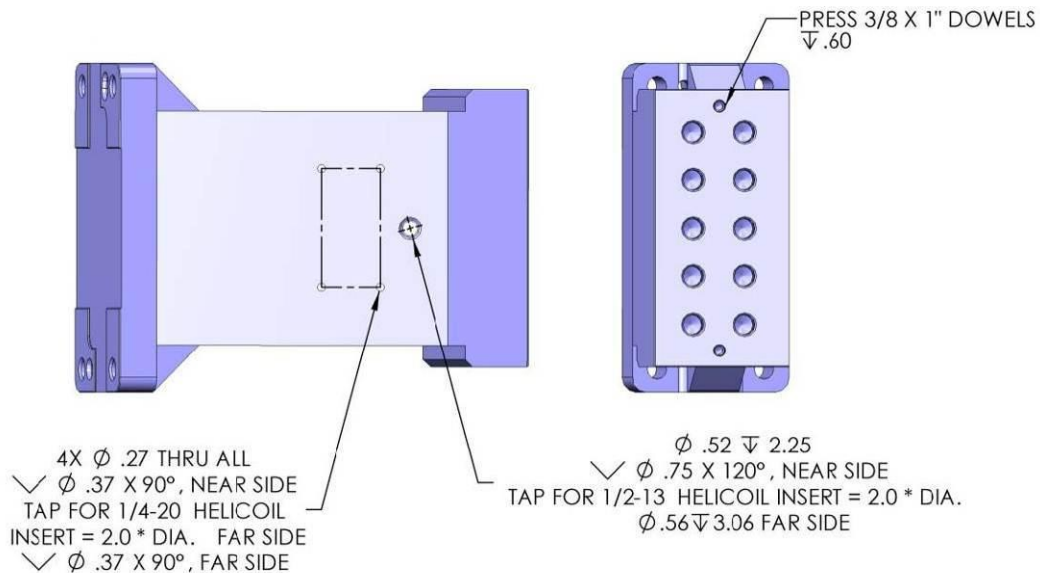

Figure 9: D0901499 Stage 0-1 Blade Post Prep Work
(1) 1/2-13 x 2 DIA Helicoils
(2) 3/8" x 1" dowel pins
- Install Nitronic 60 Helicoil threaded inserts into D0901499 Stage 0-1 Blade Post as shown on Figure 9.
- Press (2) 3/8" x 1" dowel pins into D0901499. Pins should sit about 0.4" above the top surface.